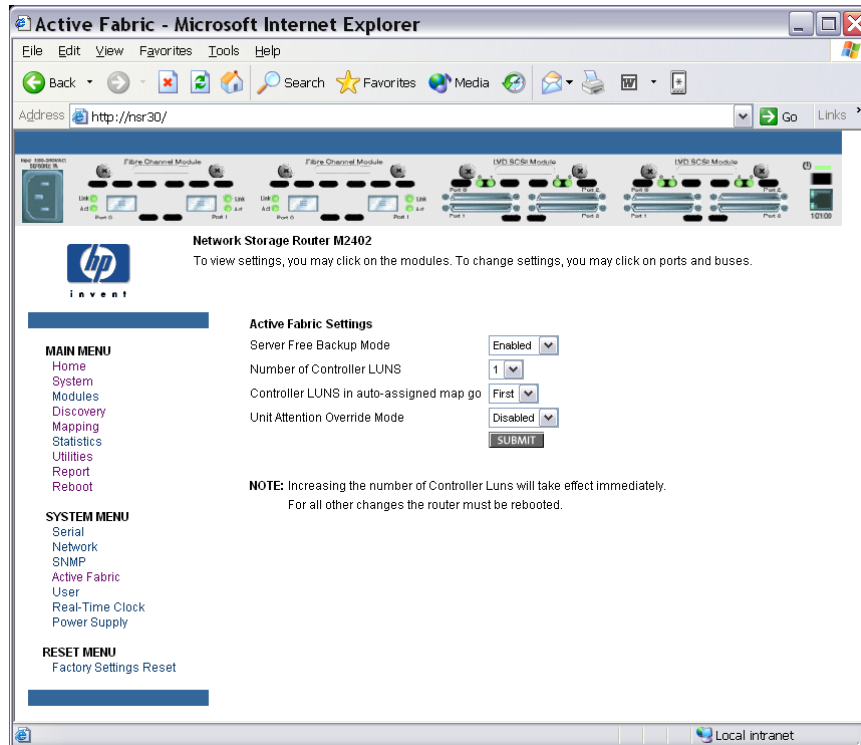

Figure 25: Enabling server free backup
3. In the **Active Fabric** window, set the **Server Free Backup Mode** to **Enabled**. Make sure that the **Number of Controller LUNs** is at least **1**. Click **Submit** to save the changes (see Figure 25).